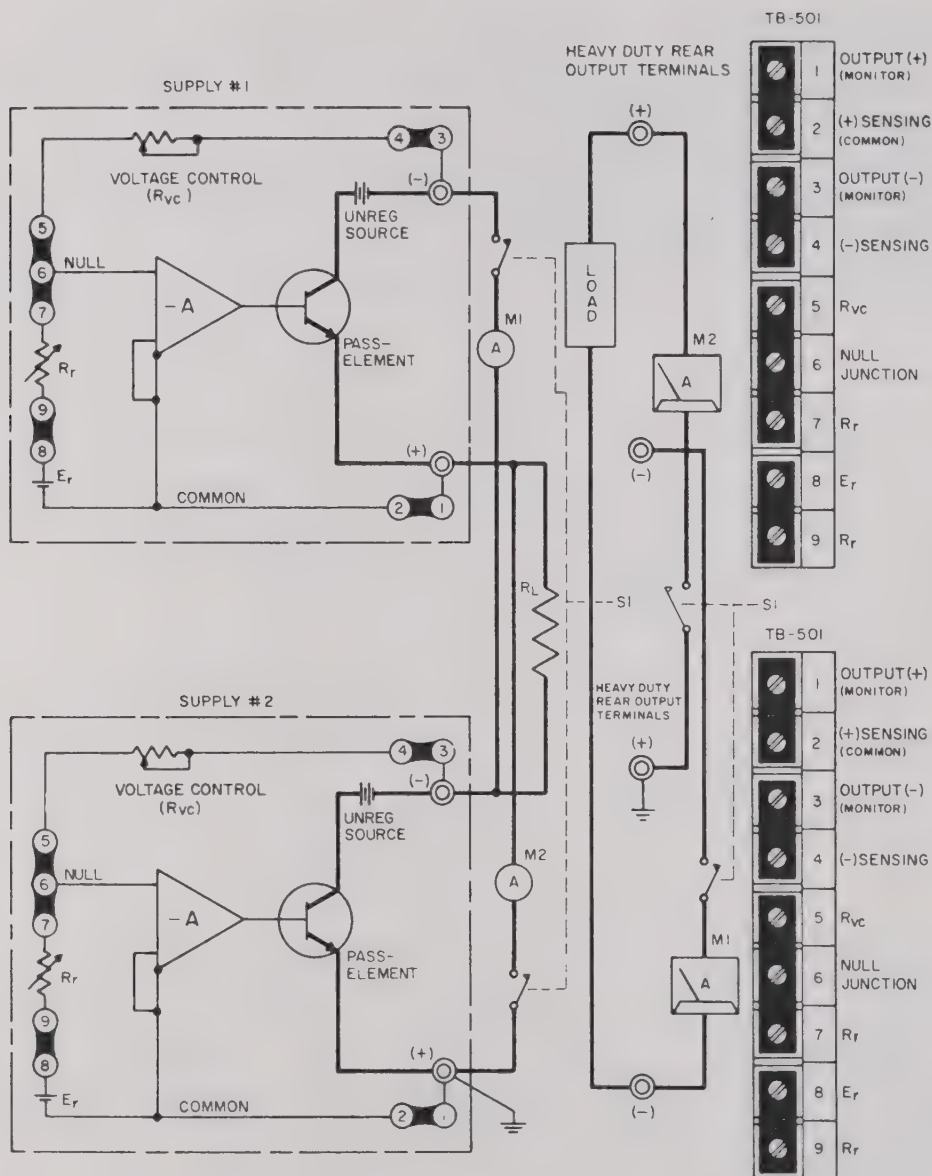

FIG. 3-13 BASIC PARALLEL CONNECTION OF TWO KEPCO POWER SUPPLIES
3-44 **PROCEDURE FOR AUTOMATIC PARALLEL CONNECTION** (See FIG. 3-13)
- 4) Make all load interconnections as shown in the connection diagram (refer to FIG. 3-13) *except the error sensing connections* (these connections may be added later if needed)